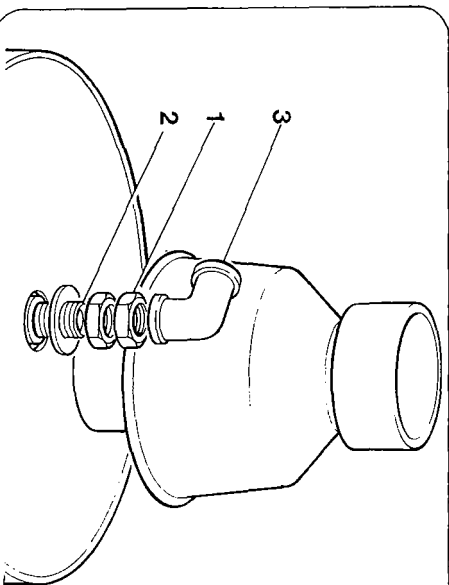

Fig. 7 Models 69/179, 63/321 and 55/435
Vented Systems (see Figs. 7 to 12), Refer to Water Bye Law 30
Models 69/179, 63/321 and 55/435 with reference to Figs 7 and 8.
4. Slacken the clamping nut securing the temperature guard top and the flue collector hood (see Fig. 7) as far as possible. This must be slackened to its full extent to avoid damage to the flue collector hood seal when rotating the hood.